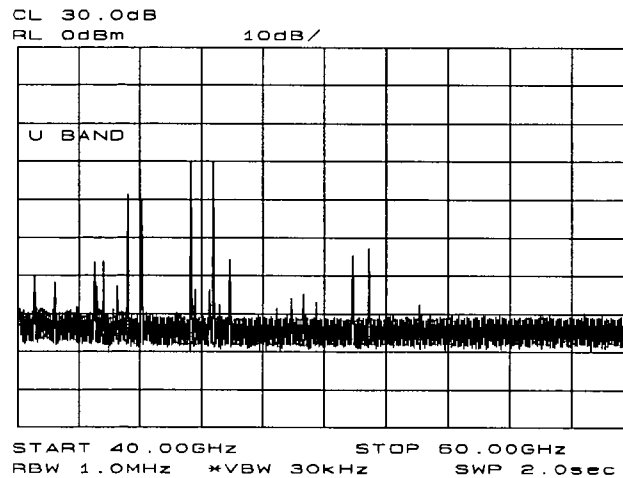

Figure 3-31. Select the band of interest.
1. Specify unpreselected external mixing by pressing **CONFIG**, then **EXT MXR PRE UNPR** until **UNPR** is selected. To select a frequency above 18 GHz, press **AUX CRTL**, **EXTERNAL MIXER** to set the analyzer to external mixer mode, and then enter the desired frequency directly using the center-frequency function. Note in Table 3-1 that some frequencies overlap and fall into two bands. To be sure that the desired band is selected, refer to Table 3-1 and select the desired frequency band, then use the full band function to enter this band. In the external mixer menu, press **FULL BAND**, then press the step up **▲** key until the letter preceding **BAND** in the active function area corresponds to the desired frequency band. In this example, we'll take a look at U-band, which ranges from 40 GHz to 60 GHz, as depicted in Figure 3-31. The **LOCK HARMONIC** function "locks" the spectrum analyzer in that band, ensuring that the spectrum analyzer sweeps only the chosen band. The **LOCK ON OFF** softkey is automatically set to ON when **FULL BAND** is pressed.